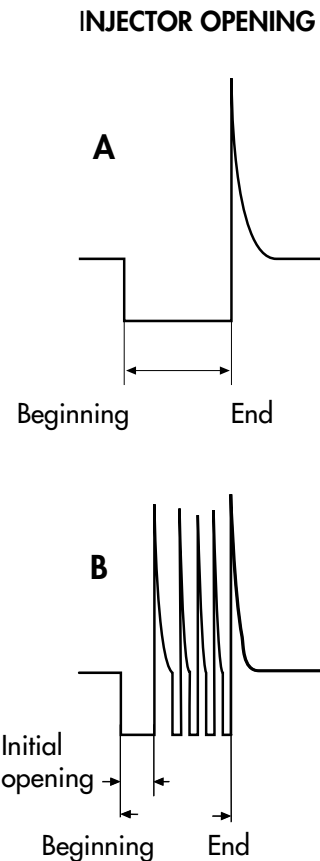

Fig. 10
**5.2** Fig. 10 shows the signals of two types of injectors: